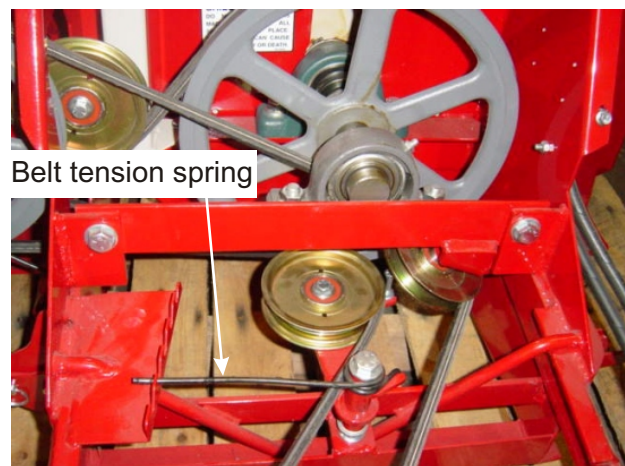

Figure 3
6. Engage the PTO belt tension spring on the snow blower. See Figure 3. Belt tension can be adjusted by moving the belt tension spring to a different slot. See belt tension adjustment on page D-2.